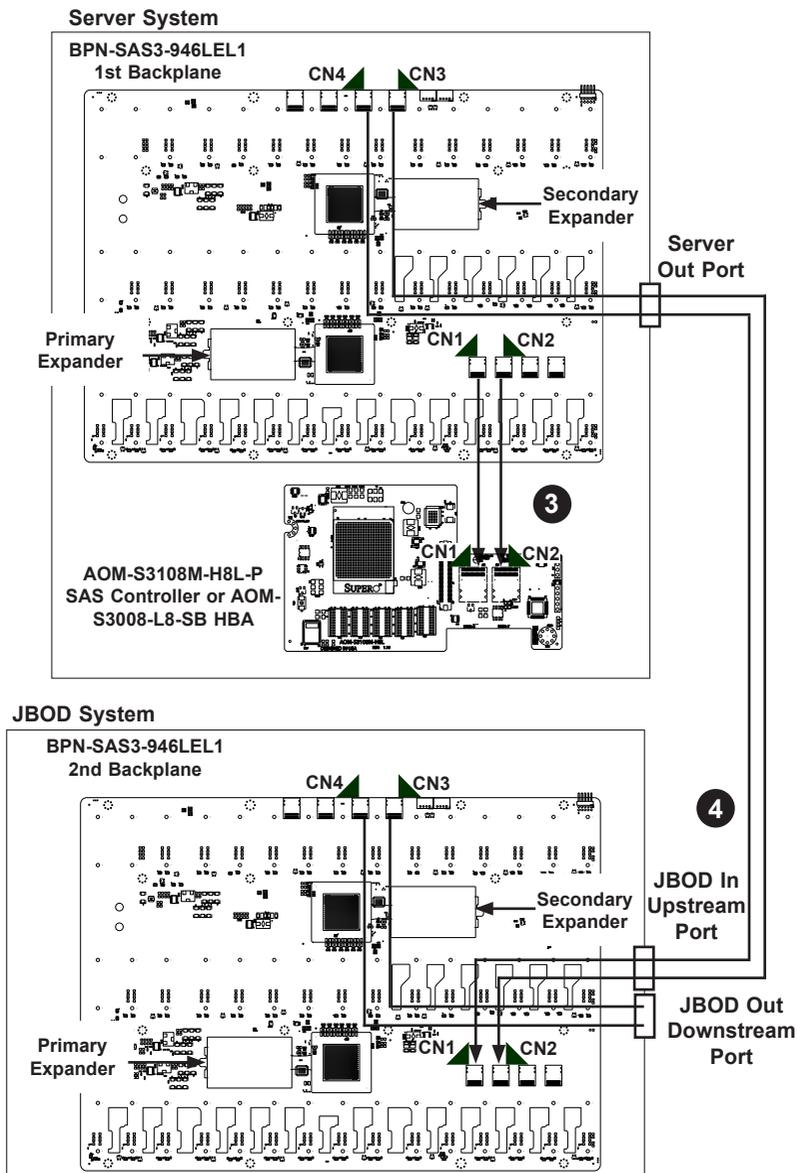

Figure 3-1. Backplane Cascading Configuration
3. Plug the cables into the 1st backplane connectors CN1 and CN2, then route them to connectors CN1 and CN2 on the underside of the AOM-S3108M-H8L-P SAS controller or AOM-S3008-L8-SB HBA in the same server as the 1st backplane, as illustrated in Figure 3-1.
4. To connect the 1st backplane connectors CN3 and CN4 to the 2nd backplane connectors CN1 and CN2, plug the External MiniSAS HD to External MiniSAS HD 1m cables (CBL-SAST-0573) into the server out port and into the JBOD in upstream port of the JBOD where the 2nd backplane is located, as illustrated in Figure 3-1.